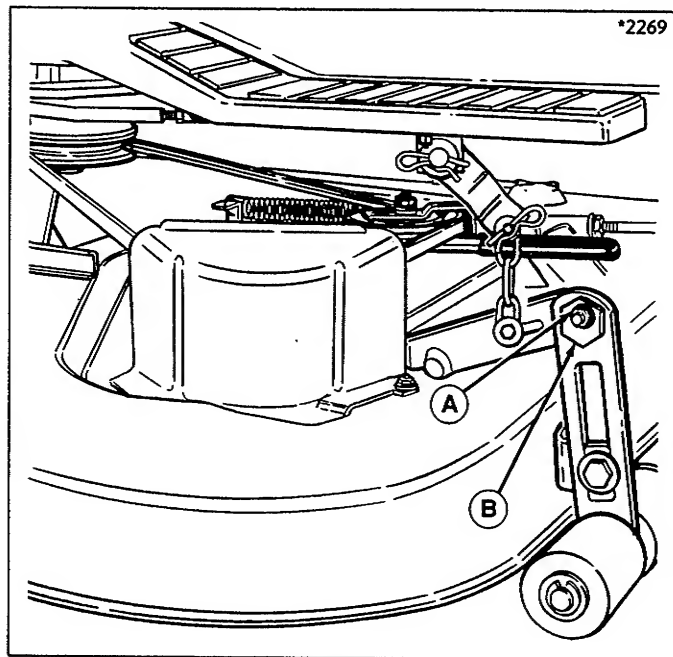

Figure 32. Side-To-Side Leveling
3. Turn blades side-to-side and measure distance from outside tip of blades to ground. Measurement should be equal (within 1/8 inch). For adjustment, refer to figure 32.
- a. Loosen outside nut (A, figure 32).
- b. Turn eccentric hex nut (B) to raise or lower left hand side of mower.
- c. Hold nut (B) and tighten nut (A) to 30 ft. lbs. Check measurement.